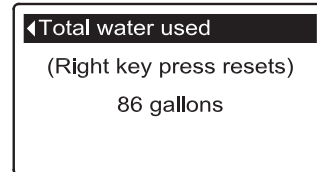

FIG. 121
6. The **Total water used** screen (See Figure 121) shows the volume of water used since it was last reset (it works like the trip odometer in a car). To reset the value to 0, press the RIGHT (▶) button while this screen is displayed.